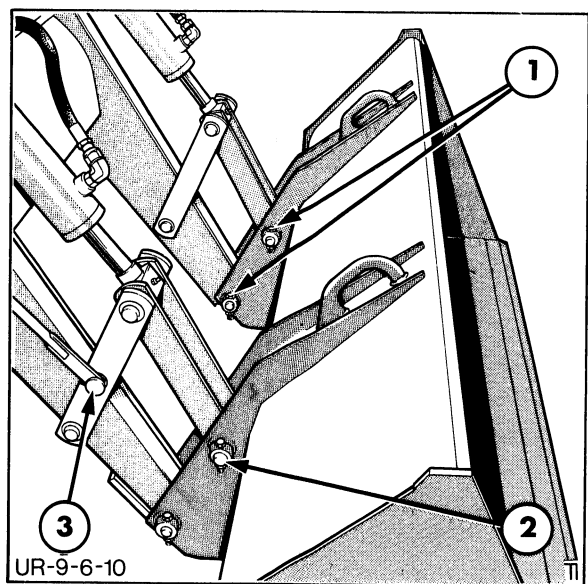

FIGURE 8-170
**NOTE:** Ensure when installing the right hand bucket cylinder, that the idler link is fitted with the welded pin closest to the lift arms, Figure 8-170.